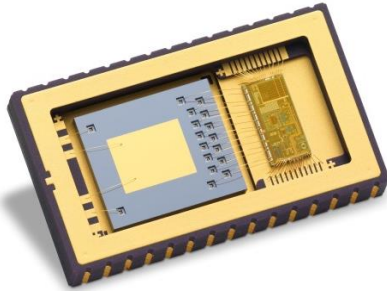

Figure 31 : Inner view of the package, showing the MEMS and IC
The sensing element (MEMS die), which is located on the left part of the Figure 31, is manufactured using Tronic's wafer-level packaging technology based on micro-machined thick single crystal silicon. The MEMS consists of two coupled sub-structures subjected to linear anti-phase vibrations. The structures are vacuumed at the wafer-level providing high Q-factor in the drive mode. The drive system is decoupled from the sense system in order to reduce feedback from sense motion to drive electrodes. The drive anti phase vibration is sustained by electrostatic comb drives. The sense anti phase vibration resulting from Coriolis forces is counter balanced by electrostatic forces. Differential detection and actuation are used for both drive and sense systems and for each sub-structure, keeping two identical structures for efficient common mode rejection.
The integrated circuit (IC), which is located on the right part of the Figure 31, is designed to interface the MEMS sensing element. It includes ultra-low noise capacitive to voltage converters (C2V) followed by high resolution voltage digitization (ADC) for both drive and sense paths. Excitation voltage required for capacitance sensing circuits is generated on the common electrode node. 1-bit force feedbacks (DAC) are used for both drive and sense system actuation.